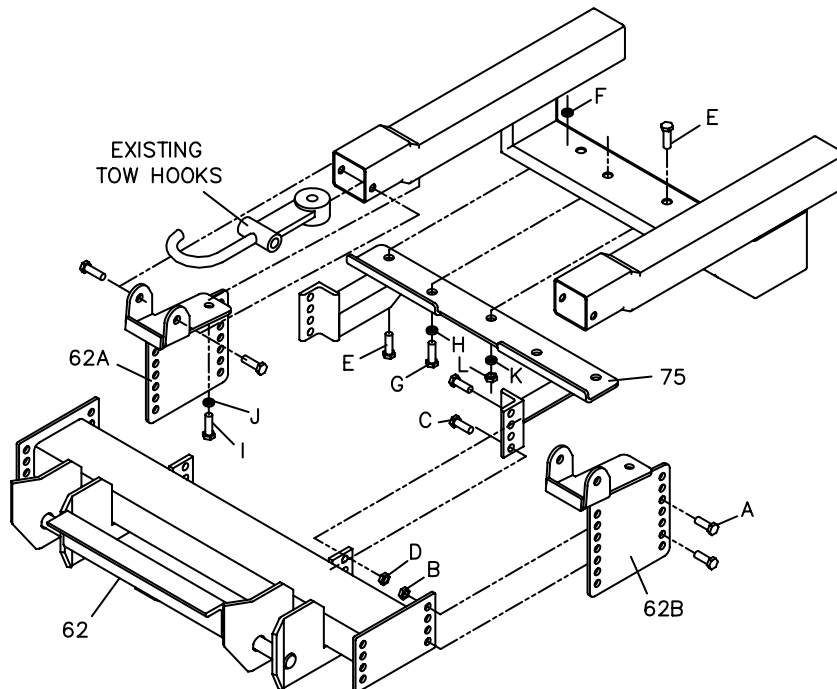
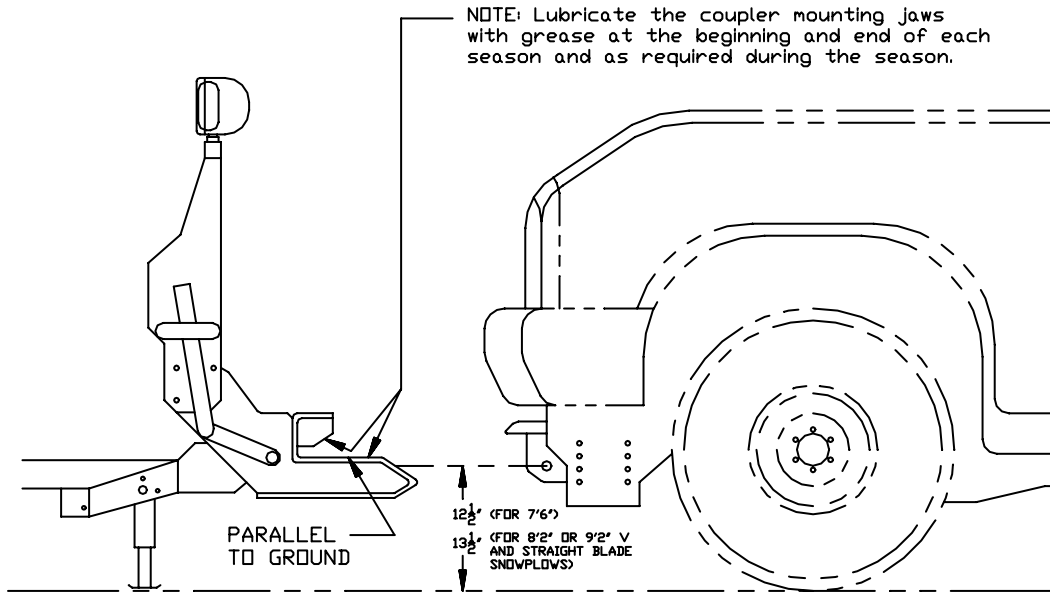

Figure 1
Figure 2
1. Remove the six mounting bolts being used on the two tow hooks and position the PUSH BEAM SUPPORT PLATES (Ref. 62A and B, Fig. 1) to the front frame rails of the truck. Use the M12-1.75 x 40mm hex head bolts and the M12 lock washers to bolt the PUSH BEAM SUPPORT PLATES through the frame rail to the tow hooks (see Fig. 1). With both support plates in place two slots should be cut in the air dam for clearance of the support plate bottom plates (Ref. 62A and B). Fasteners should only be finger tight.
2. Remove the five rear existing bolts holding the plastic skid plate in place on the vehicle. Use the M10-1.5 x 40mm hex head bolts, the M10 lock washers, the 5/8"-11 x 2" hex head bolts, the 5/8"-11 self locking nuts, the 5/8" lock washer, and the 5/8"-11 nut to mount the ANGLE BRACKET (Ref. 75, Fig. 1) into place on the inside of the skid plate. The skid plate will have to be cut for clearance of the 5/8"-11 nut and 5/8" washer. Bolts should only be finger tight.
3. Bolt the PUSH BEAM (Ref. 62, Fig. 1) in place using the 1/2" - 13 x 1- 1/2" grade 5 hex head bolts, the 1/2"-13 x 1 1/2" grade 8 hex head bolts, and self locking grade 5 and grade C nuts provided. To achieve the proper push beam height the push beam will need to be pushed up into the air dam causing deformation of the plastic. Fasteners should only be finger tight. NOTE: The proper height adjustment for the PUSH BEAM is approximately 12 - 1/2" to 13 - 1/2" from the ground to the center of the PUSH BEAM pin receiving hole (See Figure 2).